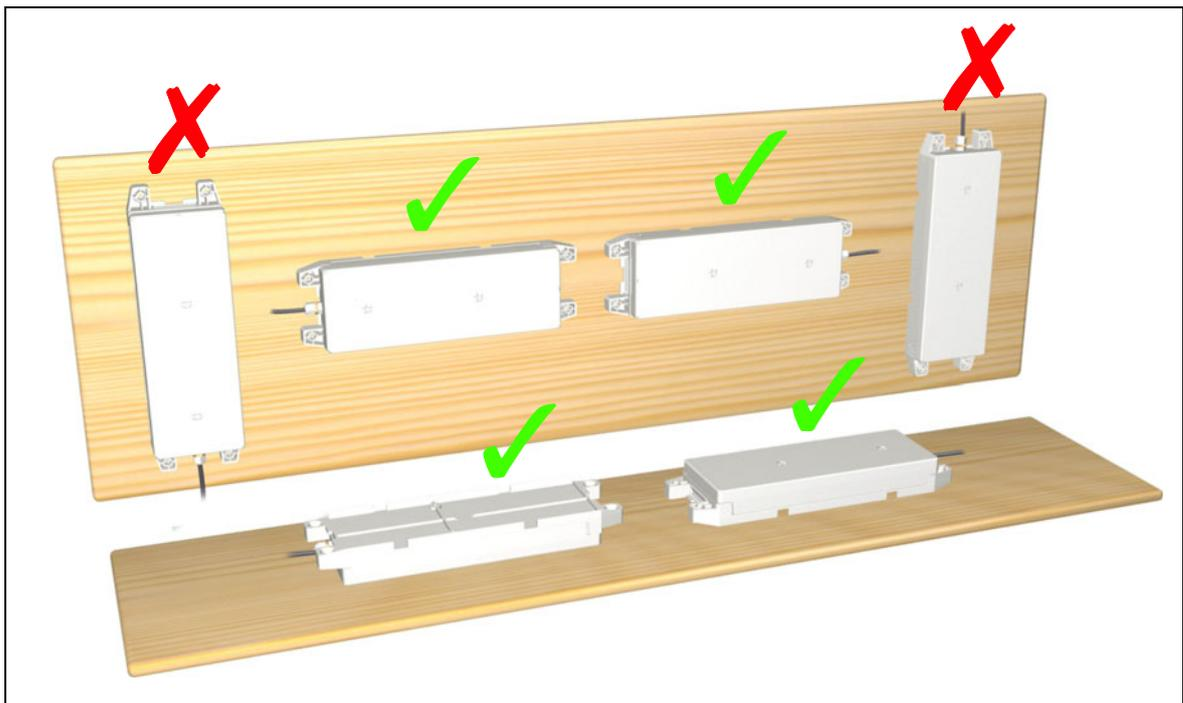

Figure 11 Permitted and prohibited positions when charging the AG300
<p>The following information is important when mounting the AG300:</p> <ul style="list-style-type: none"> <li>• Charge the AG300 completely (for at least 24 hours) before first use. The installed batteries achieve their full capacity only after 5 to 10 discharge cycles.</li> <li>• The air vents on the AG300 must not be covered during the charging process.</li> <li>• When mounting the AG300, make sure that it is not lying on its top (upside down) and the connecting cable is not facing downwards. The AG300 may only be charged when it is properly positioned (as shown in Figure 11).</li> <li>• Allow the AG300 to rest for about 1 hour after charging it; this will prolong its life-span.</li> </ul>
- Charge the AG300 only in its permitted charging position (as shown in Figure 11).
<p>Note the following information when charging:</p> <ul style="list-style-type: none"><li>• Charge the AG300 completely (for at least 24 hours) before first use. The installed batteries achieve their full capacity only after 5 to 10 discharge cycles.</li><li>• Refer to Figure 11 for the permitted charging positions.</li><li>• Allow the AG300 to rest for about 1 hour after charging it; this will prolong its life-span.</li></ul>